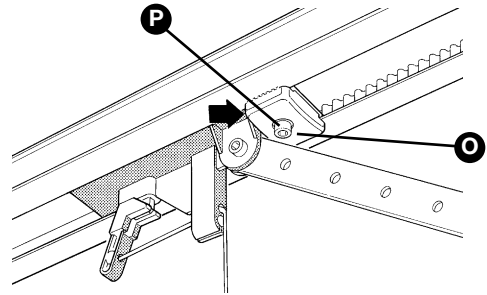

Figure 33
**9** Loosen the screws in the two mechanical stops, then place the front mechanical stop [O] before the carriage (Figure 33). Push the carriage hard in the closing direction and, in the reached position, tighten the screw firmly [P].